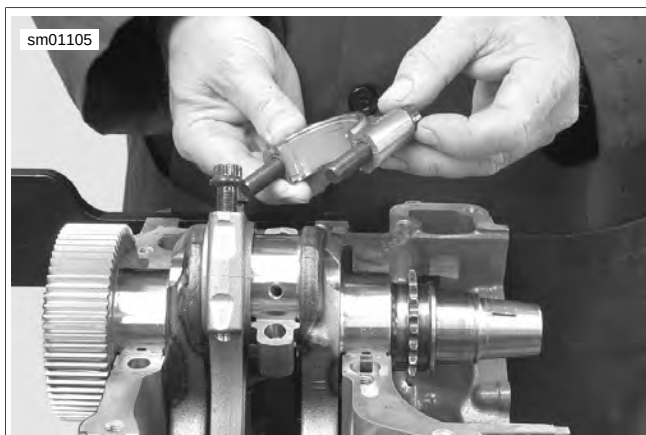

Figure 3-101. Remove Rod Caps
6. See Figure 3-101. Inspect connecting rod bearing shells. Look for scoring or discoloration.